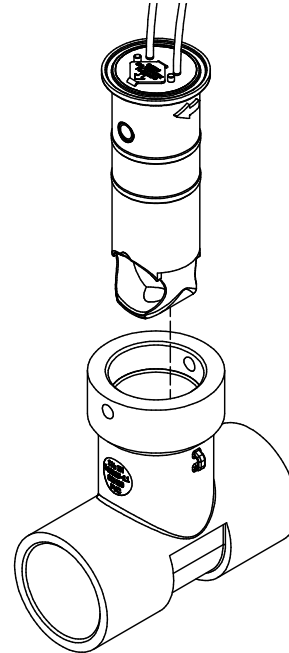

Figure 6
3. Remove the old insert. Grasp the insert flange with your hand and pull straight up and out of the Tee, making sure no dirt or other particles fall into the insert bore of the meter (see Figure 6).